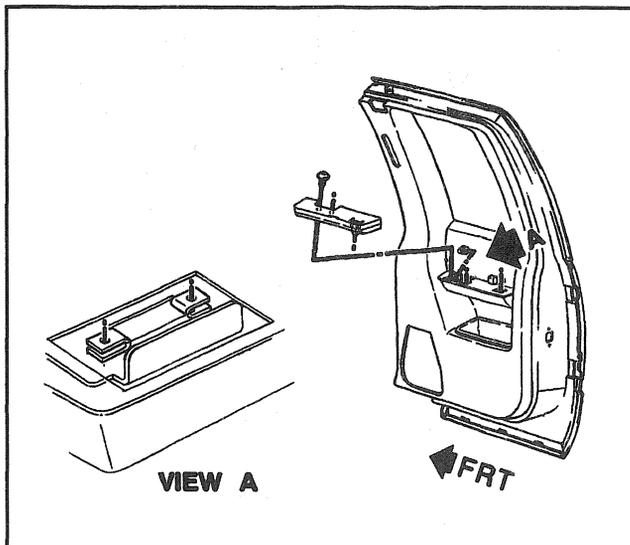

Figure 35—Rear Seat Access Door Armrest
↔ Remove or Disconnect (Figures 35 and 36)
1. Trim panel armrest screws (Figure 35).
↔ Install or Connect (Figures 35 and 36)
5. Trim panel armrest screws (Figure 35).